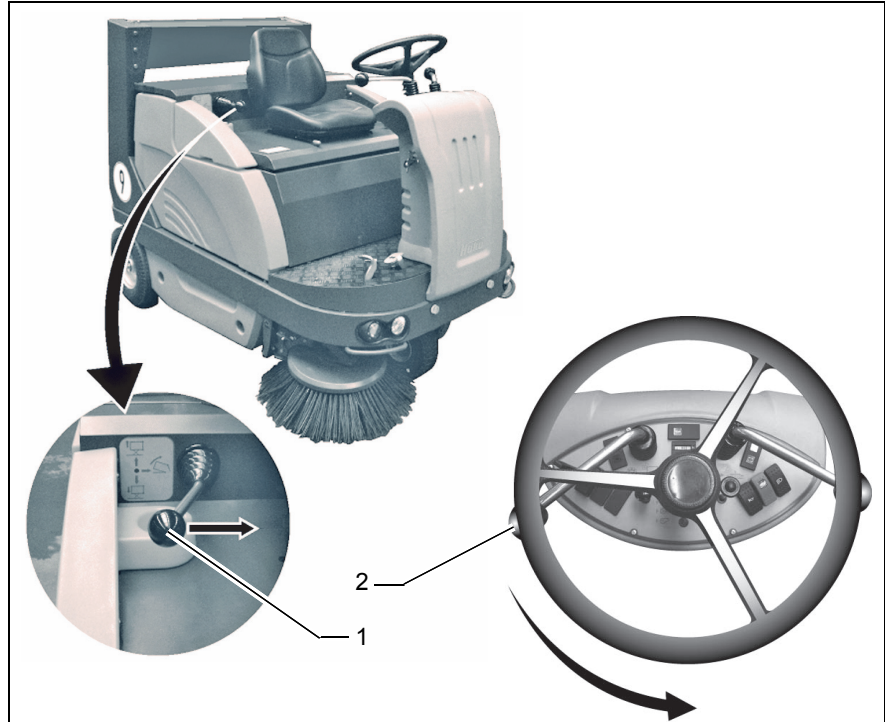

Fig.11
Pull lever for dirt hopper (Fig. 11/1) upwards and simultaneously pull the lever for sweeper roller and release for lifted-up disposal (Fig. 11/2) in arrow direction.
- Pull lever for dirt hopper (Fig. 11/1) in arrow direction, dirt hopper is swinging in emptying position.
Pull lever for dirt hopper (Fig. 11/1) down and simultaneously pull the lever for sweeper roller and release for lifted-up disposal (Fig. 11/2) in arrow direction.